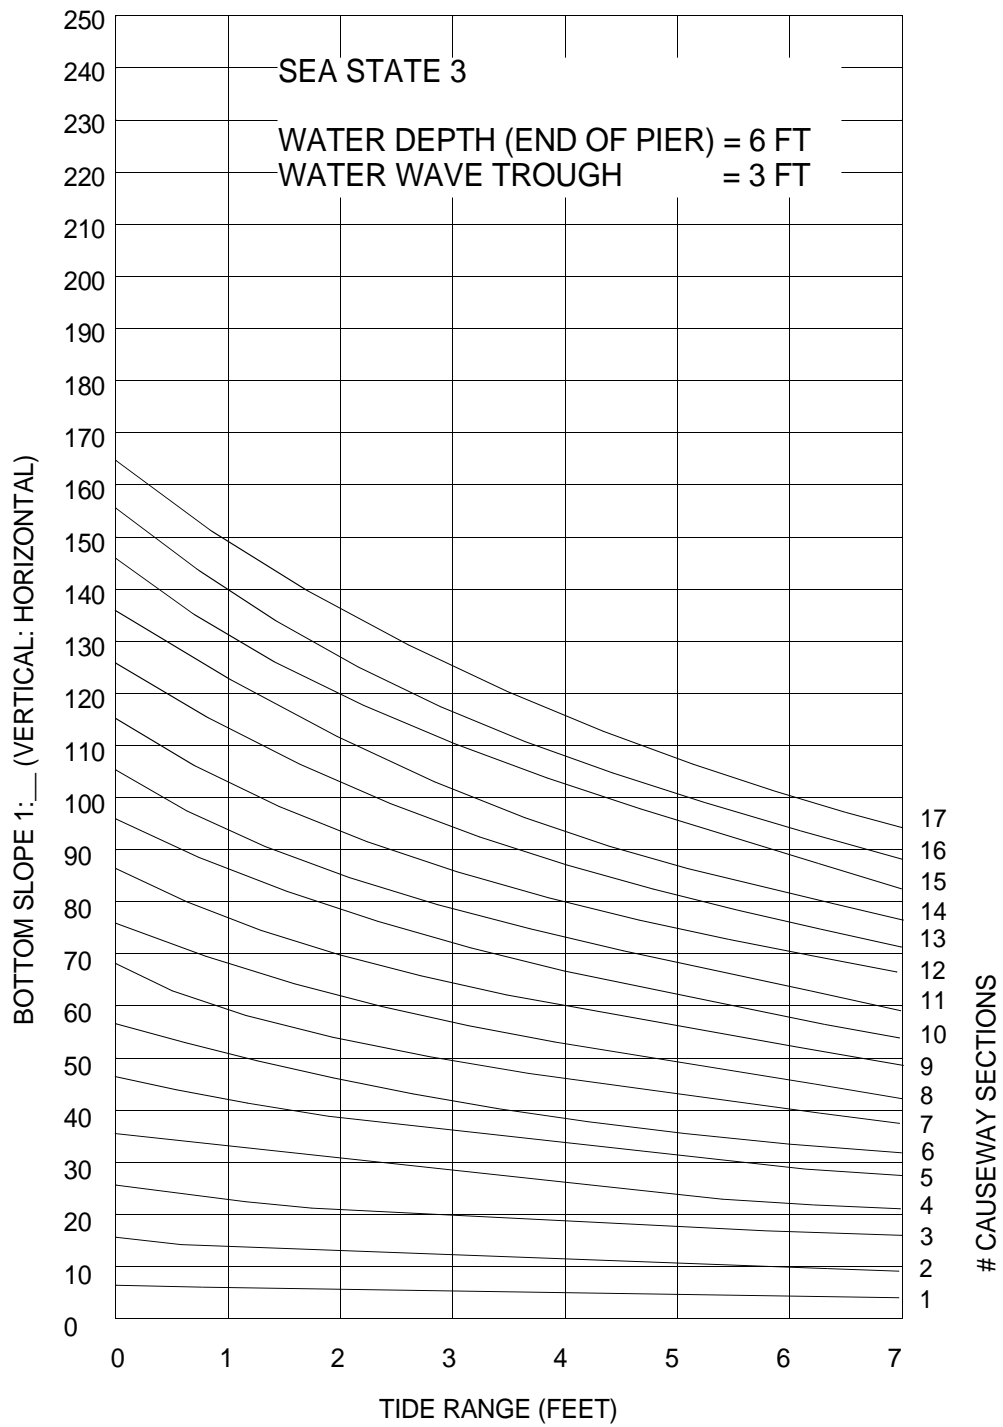
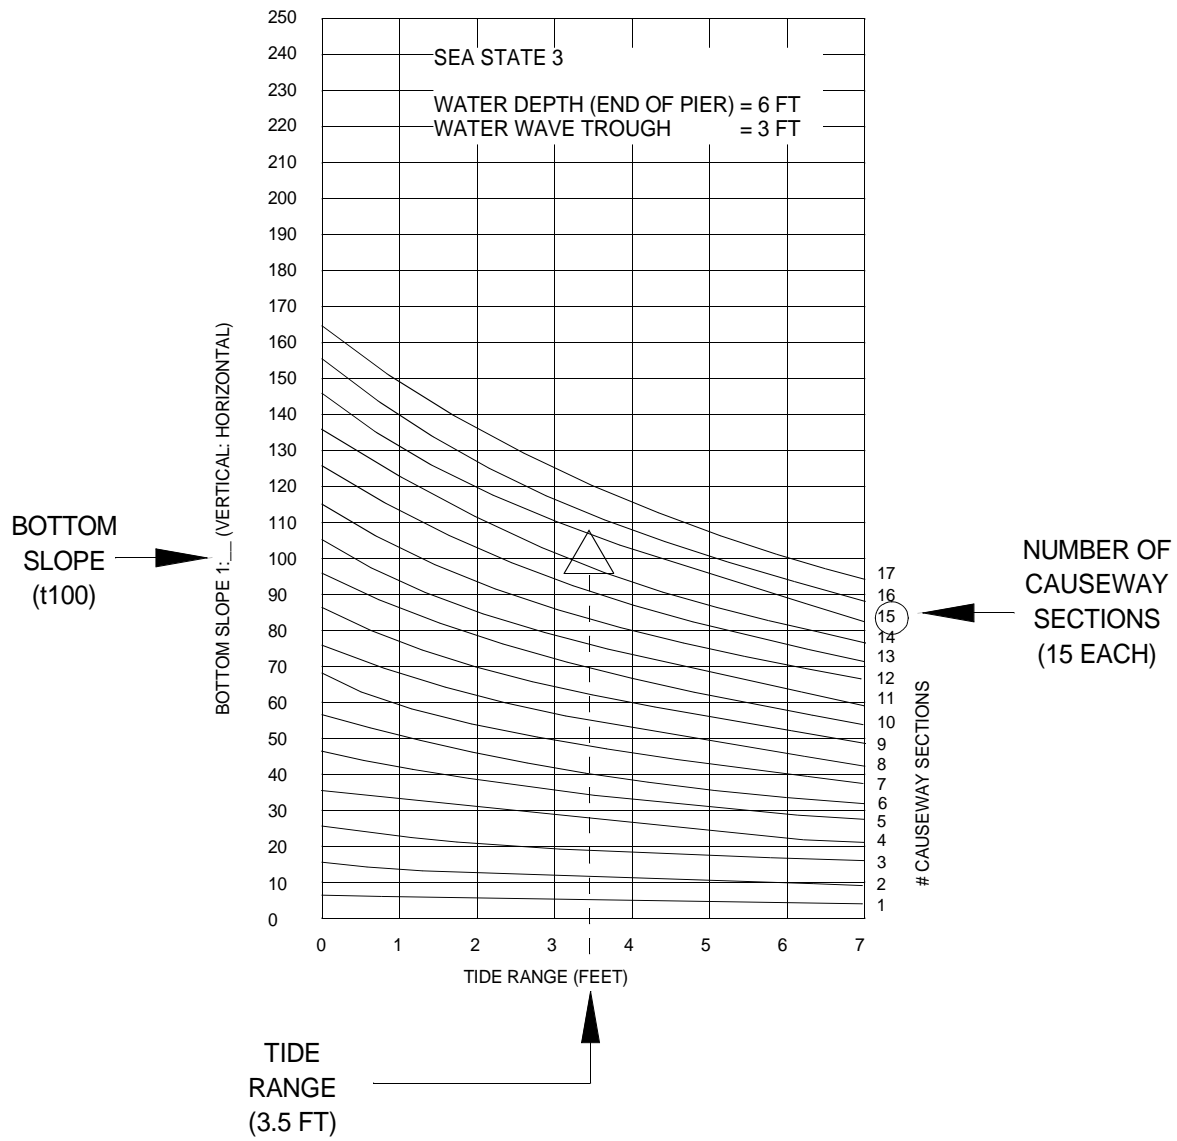

Figure 30. Causeway Sections at Sea State 3
Figure 31. Example of Sea State 3
2. As an example, assume the following conditions (figure 31):
3. Using Sea State 3 graph (figure 30), locate intersection of bottom slope and tide range. If intersection of bottom slope and tide range falls between two curves, select curve for the larger number of causeway sections. A fifteen section causeway is required for example conditions (figure 31).